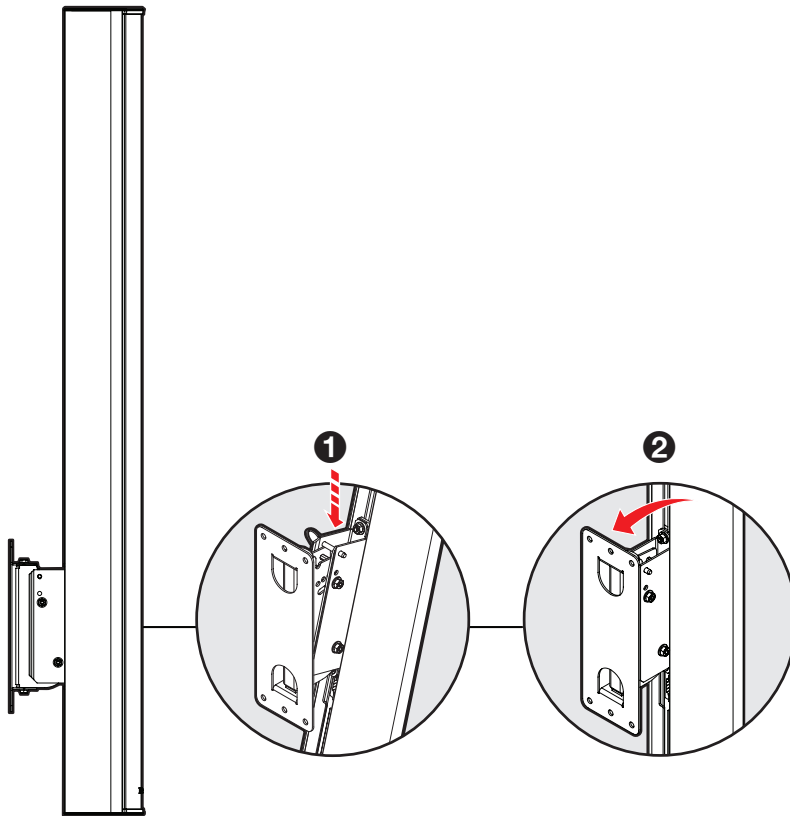

Figure 17. Attach Speaker to Wall Mount
2. Attach speaker to Wall Bracket Assembly by lowering the Speaker Bracket and bottom Angle Set Screw onto the Wall Bracket Assembly mounting hooks (see figure 17, **1**) and push speaker towards the wall until the Security Pin locks into the Security Pin Hook (**2**).